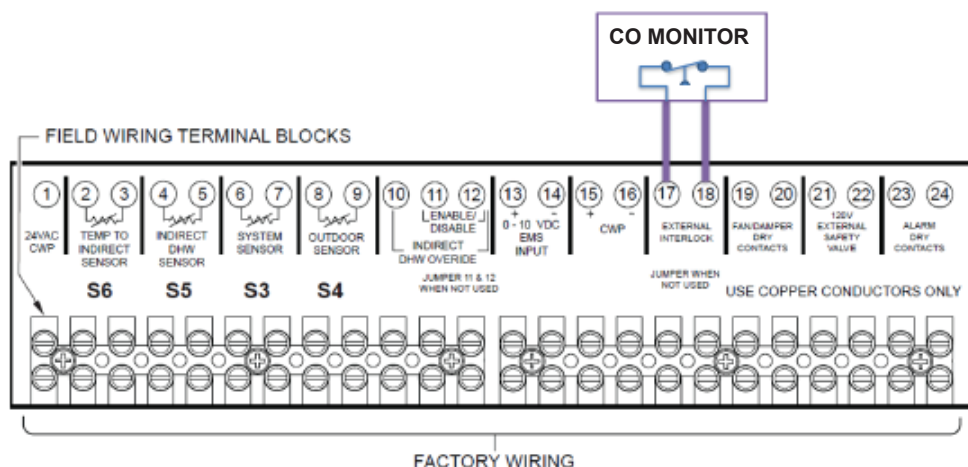

Figure 53. Low Voltage Field Wiring (CO Monitor)
3. Connect CO sensor to terminals 17 and 18 of "Field Terminal Wiring Block" per **Figure 53**.